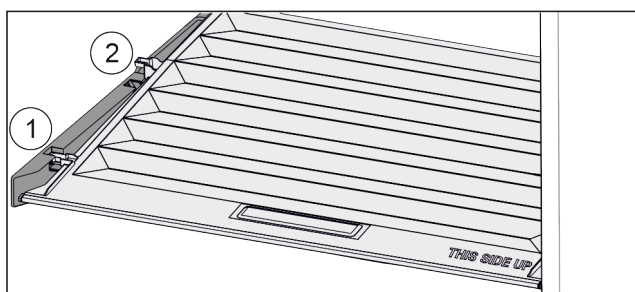

Fig. 75
- Pull the lid up at the front in the retaining parts to the opening Fig. 75 (1).
- Lift from the back and pull it up and out Fig. 75 (2).